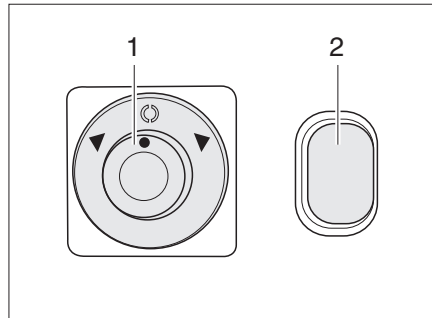

Fig. 24 Switch for electrically adjustable external mirrors and mirror heater
Adjusting: ■ Select the mirror to be adjusted. To do so, turn the rotary switch (Fig. 24,1) to the left or right.
■ Adjust the mirror by pressing the switch (Fig. 24,1) in the appropriate direction.
Switching on the heater: ■ Press the switch (Fig. 24,2). The switch indicator lamp lights up in orange and shows it is in operation.